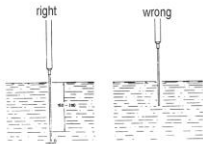

Fig. 7
* For an accurate reading of T2, with liquid temperature probe (see Fig. 7)